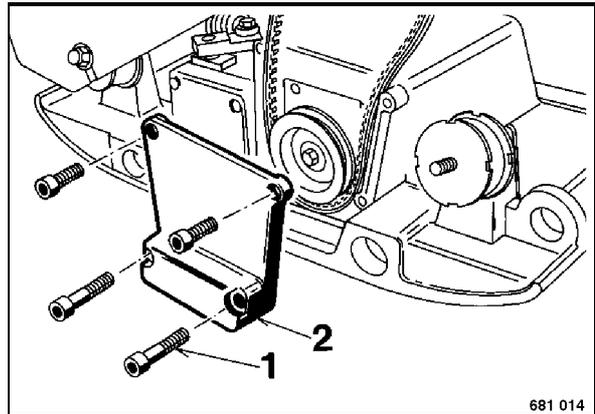

Fig. 67
- Unscrew the fastening screws 1 (Fig. 67) and take the cover (2) off.
- Fit the new V-belt, install the cover (2), fasten the engine carrier plate and tighten the V-belt as described before.